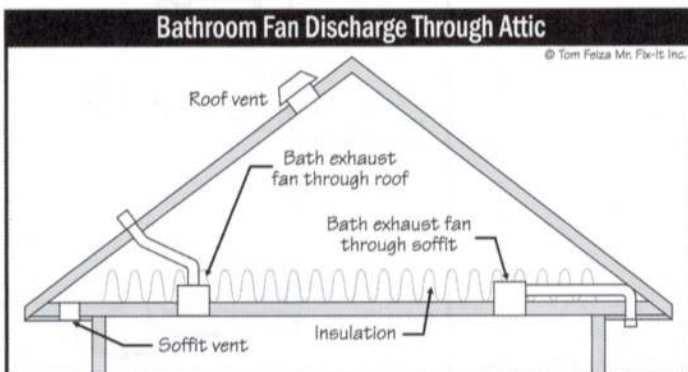

Figure 6
- Use ventilation fans in bathrooms. Add fans if you don't have them, and route the exhaust outside your home. After a shower or bath, run the fan until the room is dry. This may require adding a timer switch in place of the regular fan switch. *See Figure 6.*